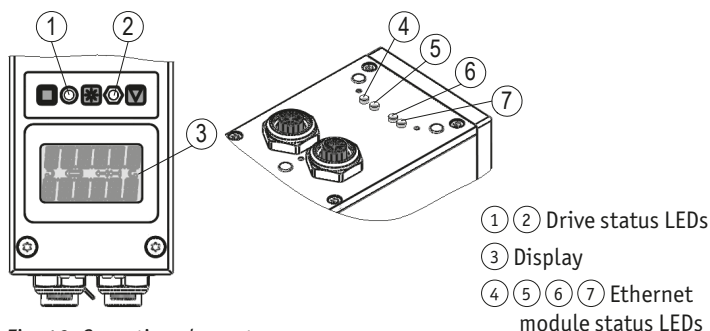

Fig. 10: Operating elements
The LEDs ① + ② (see Fig. 10) inform about the drive's status.
The LEDs ④ ⑤ ⑥ ⑦ (see Fig. 10) inform about the status of the Ethernet module. For a description of the functions of the module status LEDs refer to the relevant user manual.